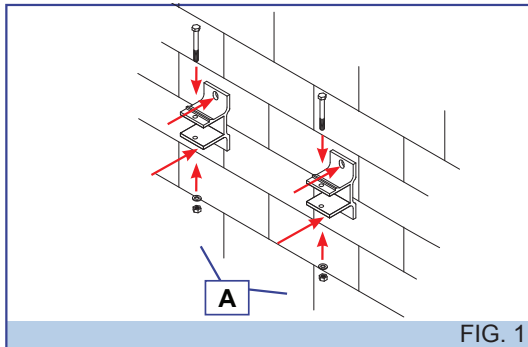

FIG. 1
1) Adjust the awning inclination using the hand brace on the adjustable shoulder eyelet. (Fig.1 - A). Repeat for both arms.